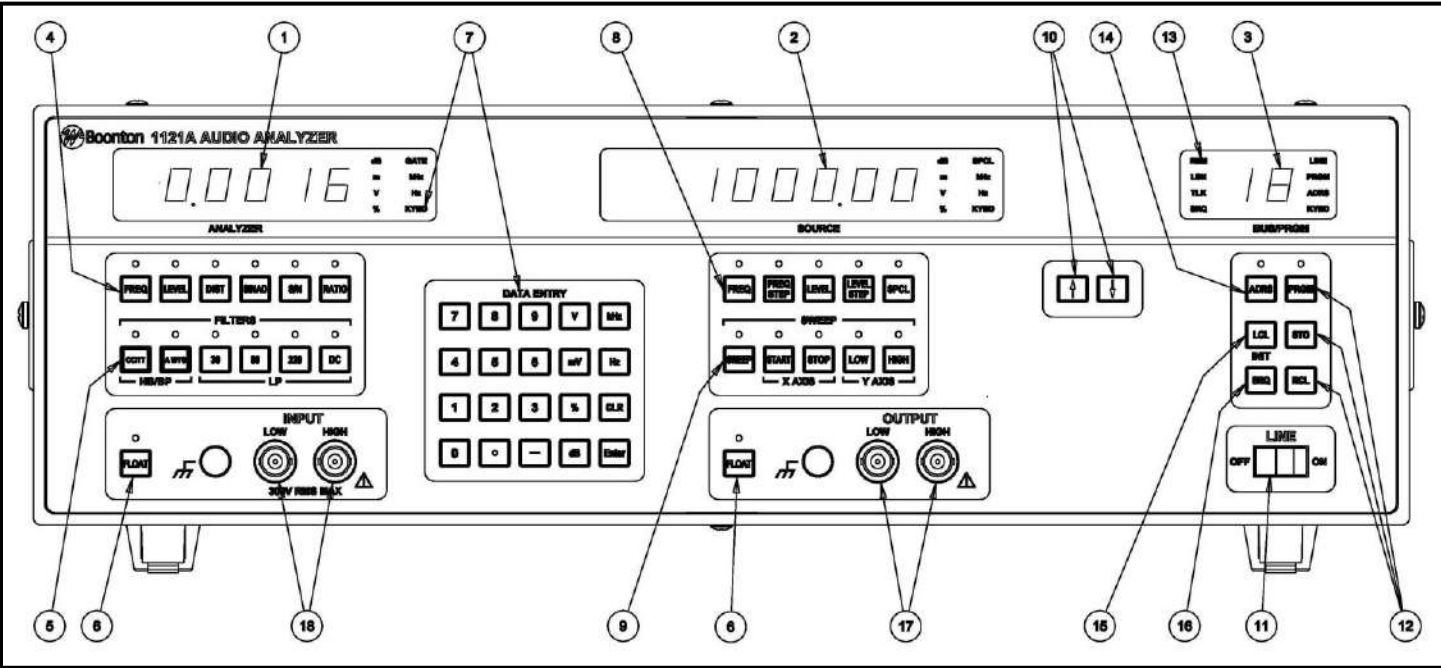

Figure 3-1. Model 1121A, Front View
**3-4.** The controls, indicators and connectors used during the operation of the instrument are listed in Table 3-1 and shown in Figures 3-1 and 3-2.